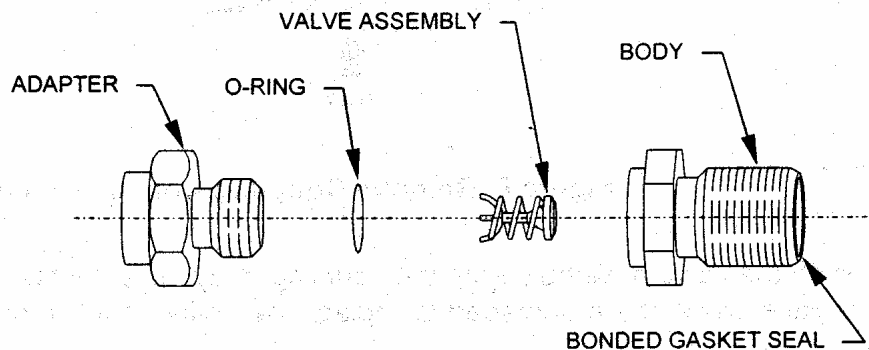

Figure 5 Aeroquip Male Coupling Parts
1. Carefully pierce or pry the old gasket face seal and pull it from its recessed ring in the body of the coupling. Discard the face seal. See Figure 5.
4. Push the valve assembly from the coupling body. It is not fastened. Examine all parts and replace any that are damaged or replace the entire coupling half. See Figures 5 or 7.